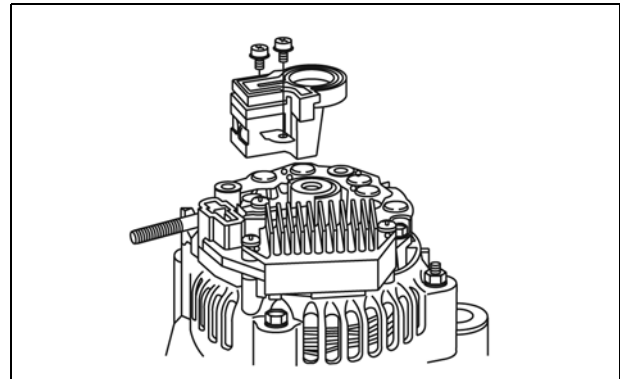

Figure 40
11. Install rear cover and screws (**A**, Figure 40). Torque to values listed in Section 14 - Engine Specifications.